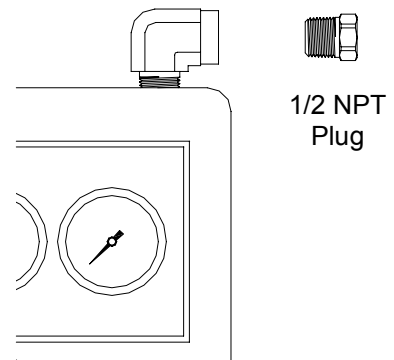

FIGURE 3
- 5) Disconnect the 1/2 NPT pipe plug from the manifold. (Figure 3)